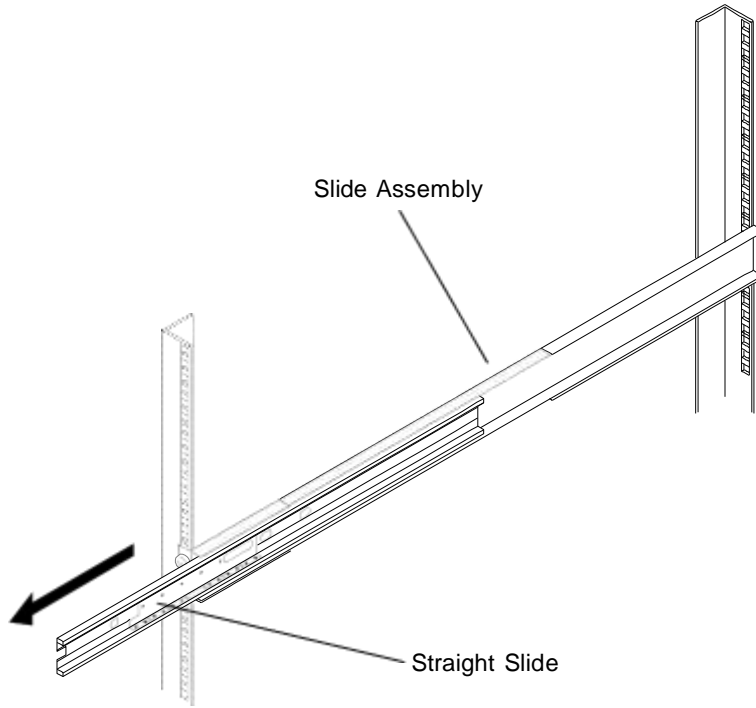

Figure 5-12 Straight Slide Extended from the Slide Assembly
2. Pull the straight slides out from the slide assemblies. Refer to Figure 5-12.